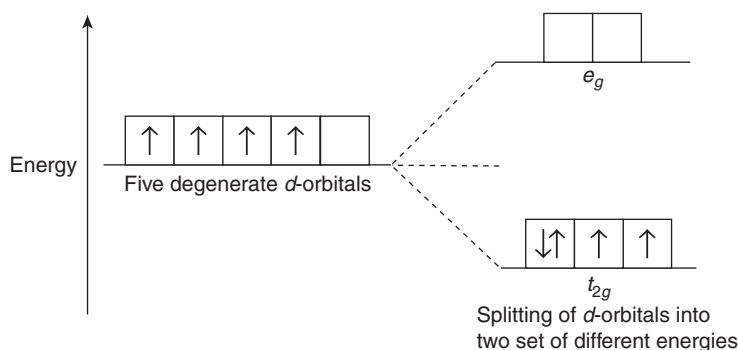

Figure 6 Arrangement of four electrons in  $t_{2g}$  orbitals of the central metal ion in an octahedral complex.
**Case I:** All the four electrons may be accommodated in  $t_{2g}$  orbitals. In such a case, the  $d$ -orbital configuration is written as:  $t_{2g}^4, e_g^0$ . It is shown in Figure 6.